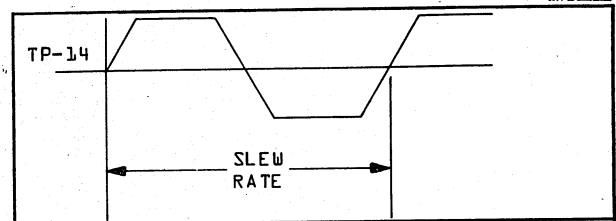

FIGURE 5-31. SLEW RATE
16. Adjust P6 on 7PC3 for 8.6 ms if the printer has been turned off for more than an hour (see Figure 5-31). If power has been on between 10 and 30 minutes, adjust P6 for 8.5ms. If power has been on over 30 minutes adjust P6 for 8.4 ms.